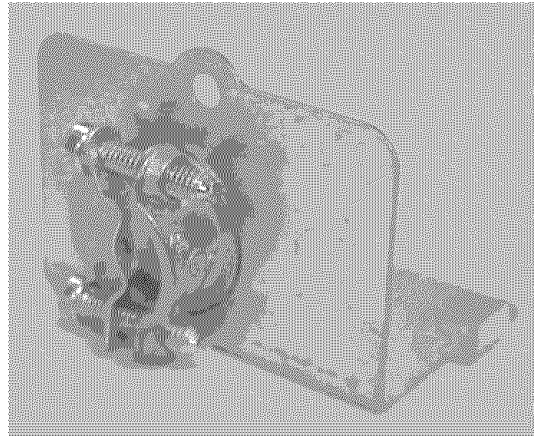

Figure 26
- 1) Retrieve the strain relief plate, and install a strain relief (not supplied) into the opening on the strain relief plate. **NOTE:** Orient the strain relief as shown in Figure 26.